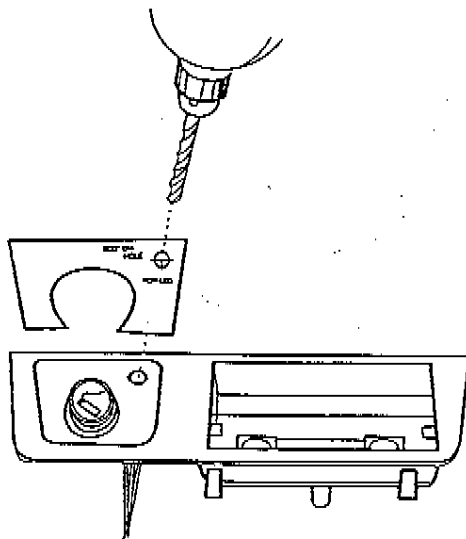

FIGURE 17
2. See Figure 17 . Remove cigarette lighter. Using the template supplied on page 17 (cut out from installation instructions sheet) locate the position of the mounting hole for LED. Use a center punch to mark location of the mounting hole.